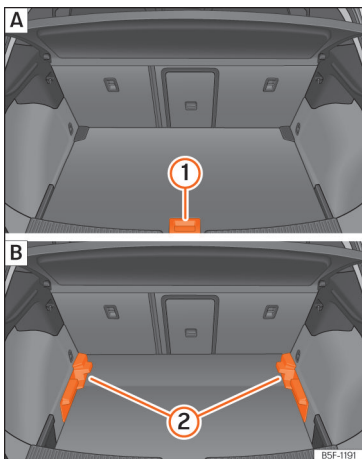

Fig. 181 Variable luggage compartment floor:
- To move from the low position to the high position, lift the floor using the handle »» Fig. 181 ①, and pull it back until the front of the floor has fully passed the supports ②.
- Move the floor forward over the supports as far as the rear seat backrest and then lower the floor with the handle ①.
- To move from the high position to the low position, lift the floor using the handle »» Fig. 181 ①, and pull it back until the front of the floor has fully passed the supports ②.
- Now let the front part fall to the floor and slide the floor forwards as far as the rear seat backrest; lower the floor at the same time with the handle ①.
- Lift the variable floor in the high position using handle »» Fig. 181 ①, pull it up and push it towards the backrest of the rear seats until it folds along the hinge line and the movable part of the floor is resting on itself.